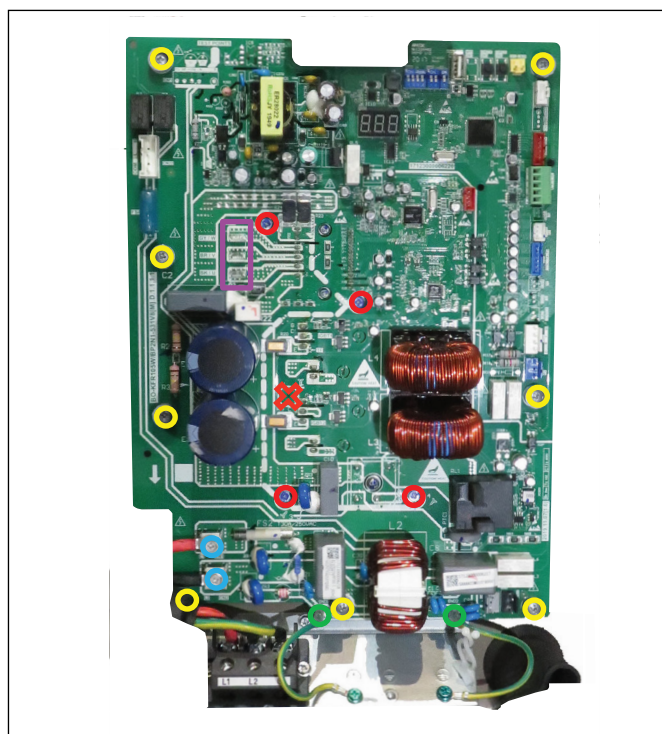

Figure 1
3. Remove compressor wire plugs, ground wire plugs, and power wire screws (refer to Figure 1: items highlighted in purple, green, and blue).
4. Remove the 8 screws on the board (refer to Figure 1: items circled in yellow).
5. Remove the 4 screws on the board (refer to Figure 1: items circled in red).
- ▶ There are 4 different types of screws; they should not be mixed. Different screw types are installed in different locations. Refer to color coding in Figure 1 and Table 1 for appropriate screw type and location.
10. Fasten all screws (Refer to Figure 1 and Table 1 for screw type and location).